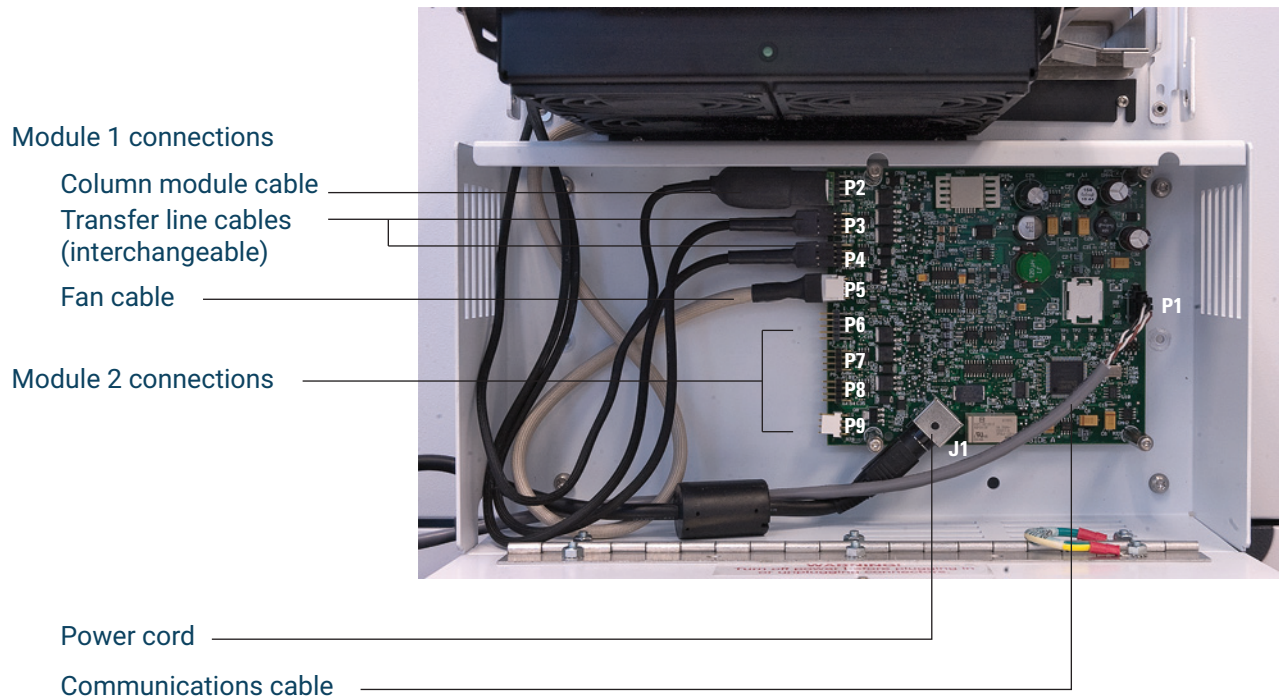

Figure 42. LTM electronics board cable connections
- 3 Route the LTM power cable through the side of the electronics cover and connect it to the electronics board at J1. See Figure 42 and Table 12.
- 4 Route one end of the long gray communications cable through the left side of the electronics module as shown in Figure 42. Connect to the board at P1.
- 7 Connect the fan cable to the electronics board at P6 (or P9 for module 2). See Figure 42.